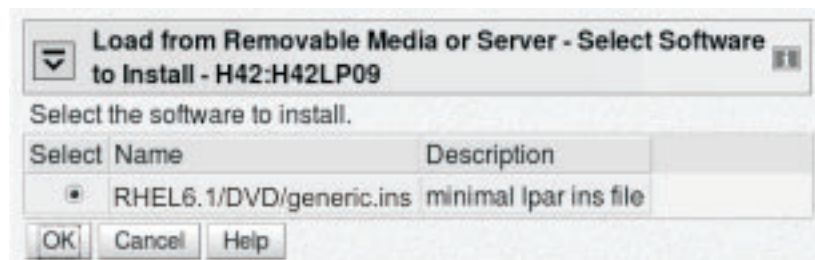

Figure 67. Select Software to Install panel
5. Click **Continue** to display the “Select Software to Install” panel (Figure 67).